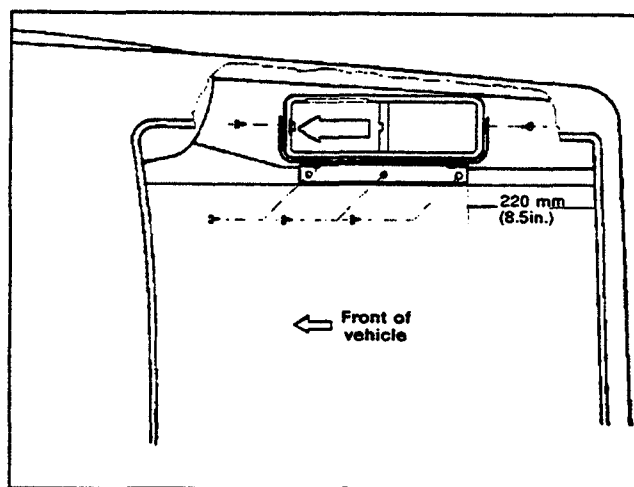
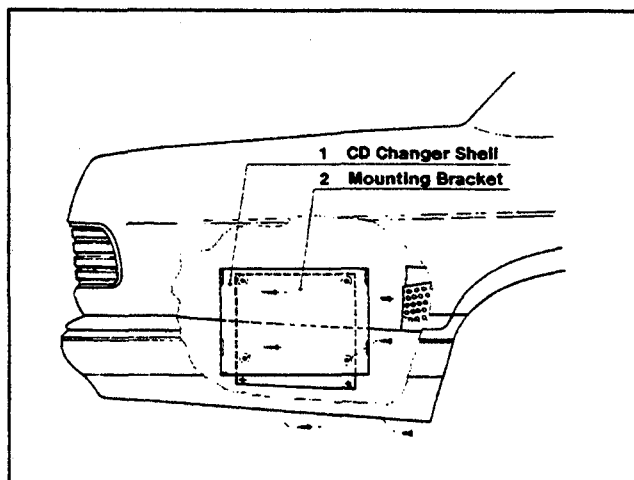

Figure 1
Figure 2
3. Place the mounting bracket (2, Figure 2) on the edge of the rail of the wheel well so that the edge of the bracket is 220 mm (8.5 in.) from the rear panel of the trunk (Figure 1). Mark the location of two horizontal and three vertical mounting holes, center punch the markings and drill 5 mm holes (Figure 2).
4. Paint the holes with zinc paint and fasten the mounting assembly using five 6.3x16 mm sheet metal screws (Figures 1 and 2).
5. Install the CD changer shell (1) to the mounting bracket (2) using four 5x10 mm bolts (Figure 2).